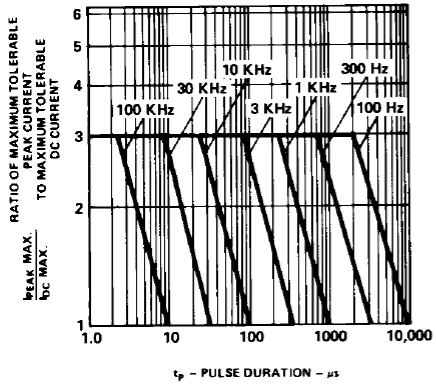

Figure 5. Maximum tolerable peak current vs. pulse duration ( $I_{DC}$  MAX as per MAX ratings).
1. See Figure 5 (Red), 10 (Yellow), or 15 (Green) to establish pulsed operating conditions.